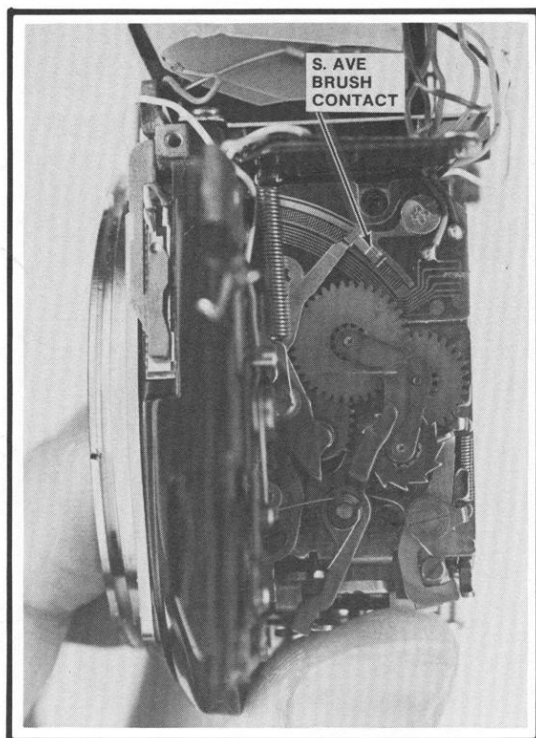

Figure 48
To check the S.AVE brush, use your thumb to simultaneously hold both the control-arm latch and the stop pawl disengaged. Now, from the front of the lens opening, pull down the diaphragm-control lever. The S.AVE brush should move along the AE pattern board, Fig. 48.
4. Hold the S.AVE-contact latch and the locking pawl disengaged, Fig. 48. Now pull down the diaphragm-control lever until it aligns with the clearance slot at the front of the mirror housing, Fig. 55.